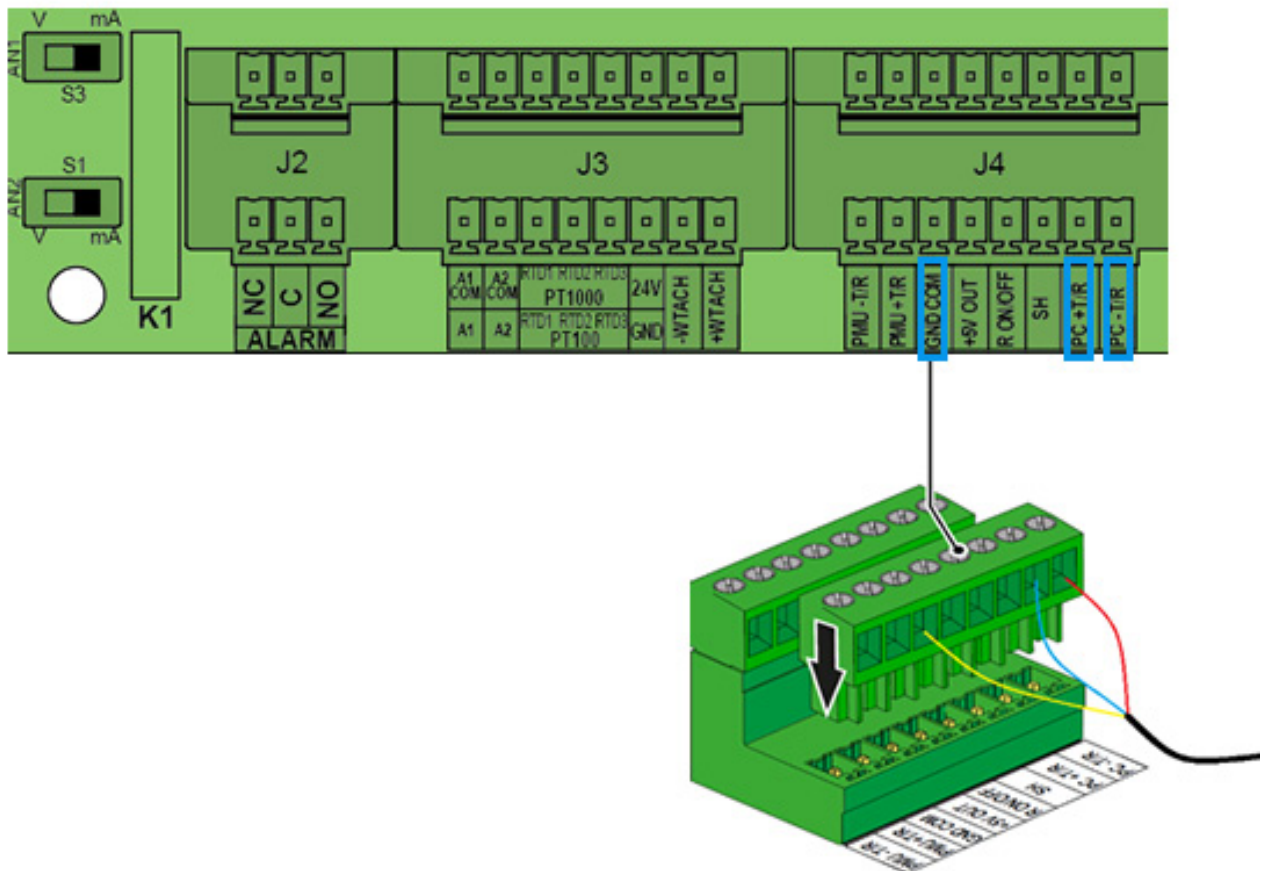

Figure 7 - Connect the RS485 cable wires as shown
- Remove the wiring box cover by unscrewing the six (6) lateral screws
- Connect the RS485 cables on the PC/SERV port (see top blue rectangle box in Figure 6 above) using an RJ45 plug, or the terminal block (see bottom blue rectangle box in Figure 6 above) by wiring the GND COM, PC +T/R and PC –T/R as shown in Figure 7 below.